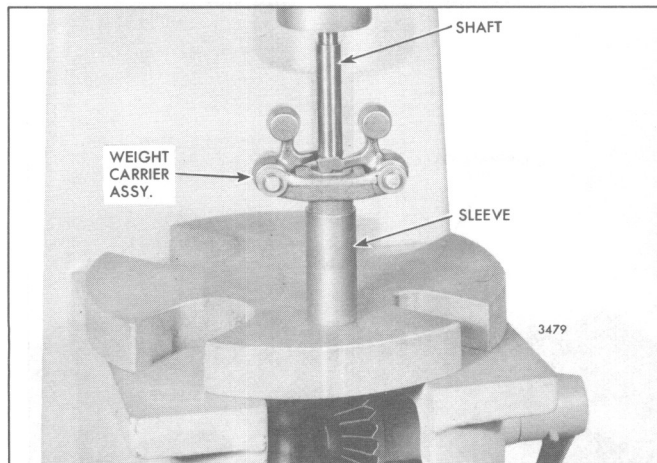

Fig. 11 – Removing Governor Weight Shaft from Weight Carrier Assembly
- If removal of the weight carrier assembly from the shaft is necessary, support the shaft, weight carrier and sleeve on the bed of an arbor press as shown in Fig. 11, and press the shaft out of the weight carrier assembly.